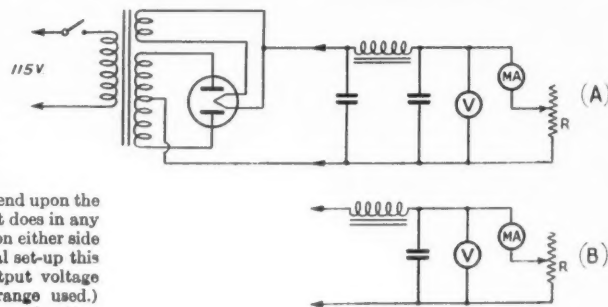

Fig. 14
**Apparatus:** The plate power supply and test instrument are used for this experiment. An adjustable load resistor,  $R$ , Fig. 14-A, also is required. It is convenient to use two resistors in series for this purpose, one a 25,000-ohm 25-watt unit and the other 25,000 ohms with a 50-watt rating. Both should be adjustable by frequent taps or sliders. Disconnect the regular bleeder resistance in the power supply and substitute the load resistor as shown. The test instrument may be used to read both current and voltage if provision is made to complete the circuit to the resistor when voltage readings are being taken. A push-button can be used for this purpose.
For the choke-input filter test, the first filter condenser in the power supply should be temporarily disconnected, giving the circuit shown in Fig. 14-B.
**Procedure:** The purpose of this experiment is to compare the effect of choke- and condenser-input filters on output voltage as the load current is varied. Taking first the condenser-input filter, measure the voltage with no load except the voltmeter on the power supply. Then connect the load resistor and increase the current in steps of approximately 10 milliamperes until a maximum current of 100 ma. is reached, noting the output voltage at each current. Use the heavier load resistor for the higher currents. Then disconnect the first filter condenser so that the circuit becomes that of Fig. 14-B and repeat the procedure. Plot the data to show output voltage as a function of load current.